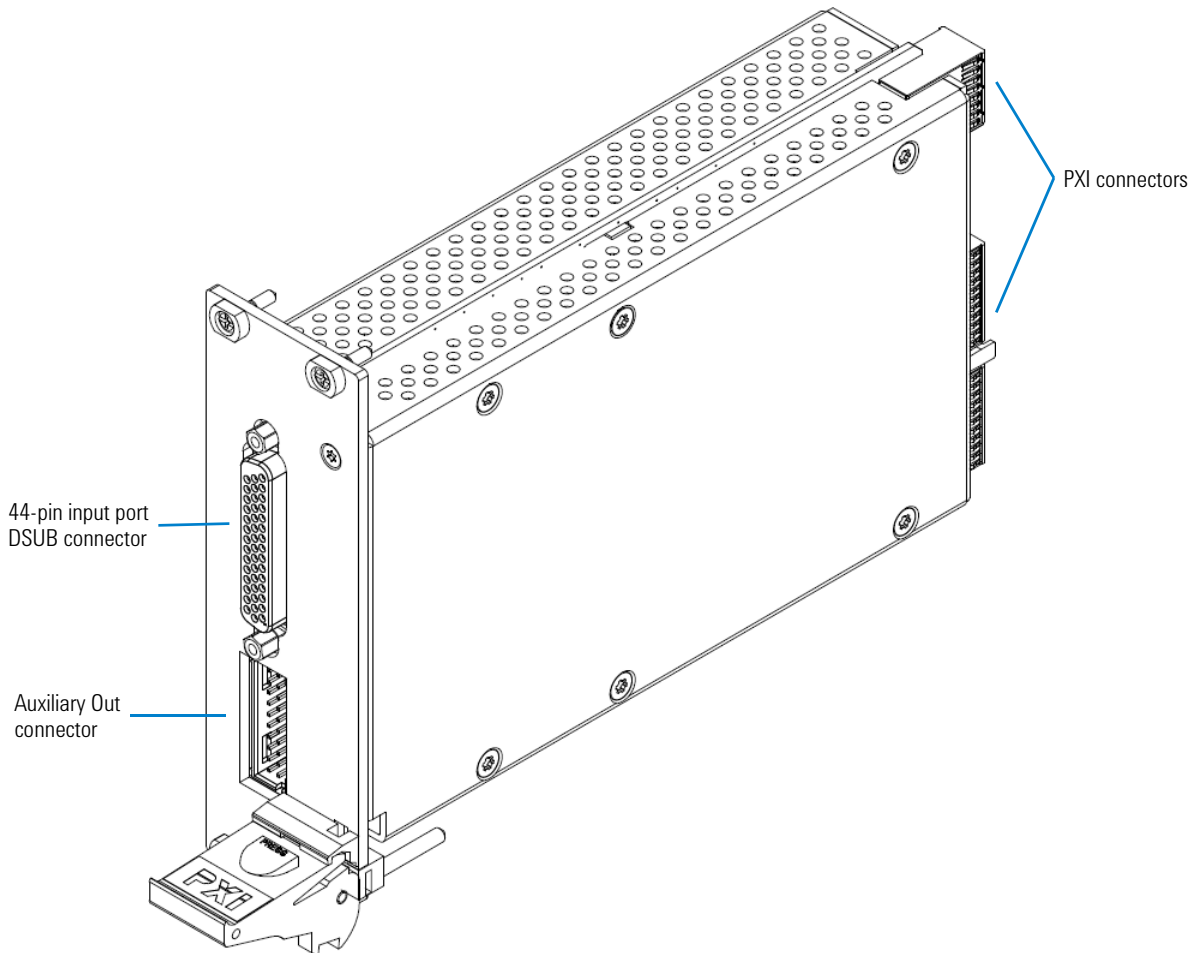

Figure 1-1 M9216A 16-bit DAQ external construction
- Figure 1-1 M9216A 16-bit DAQ external construction 3
It is specifically designed for automotive electronics voltage measurements. The M9216A slots into a standard PXI frame and physically occupy two slot spaces as shown in Figure 1-1. It works with a 5.0 V or 3.3 V signaling level and is compatible to PXI-2.